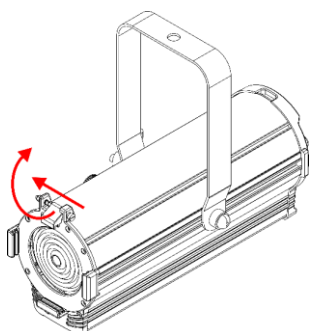
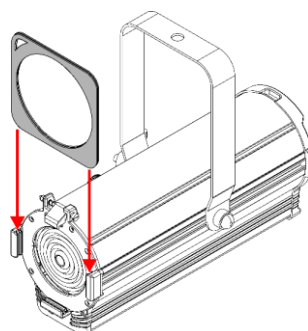

Fig. 13
Fig. 14
- 01) Push the **spring-loaded screw (09)** and at the same time lift the **color frame clip (08)** and flip it backwards (see Fig. 13).
- 02) Insert a color gel or a diffusion filter into the **color frame (23)**.
- 03) Insert the **color frame (23)** into the **color frame holders (05)** (see Fig. 14).